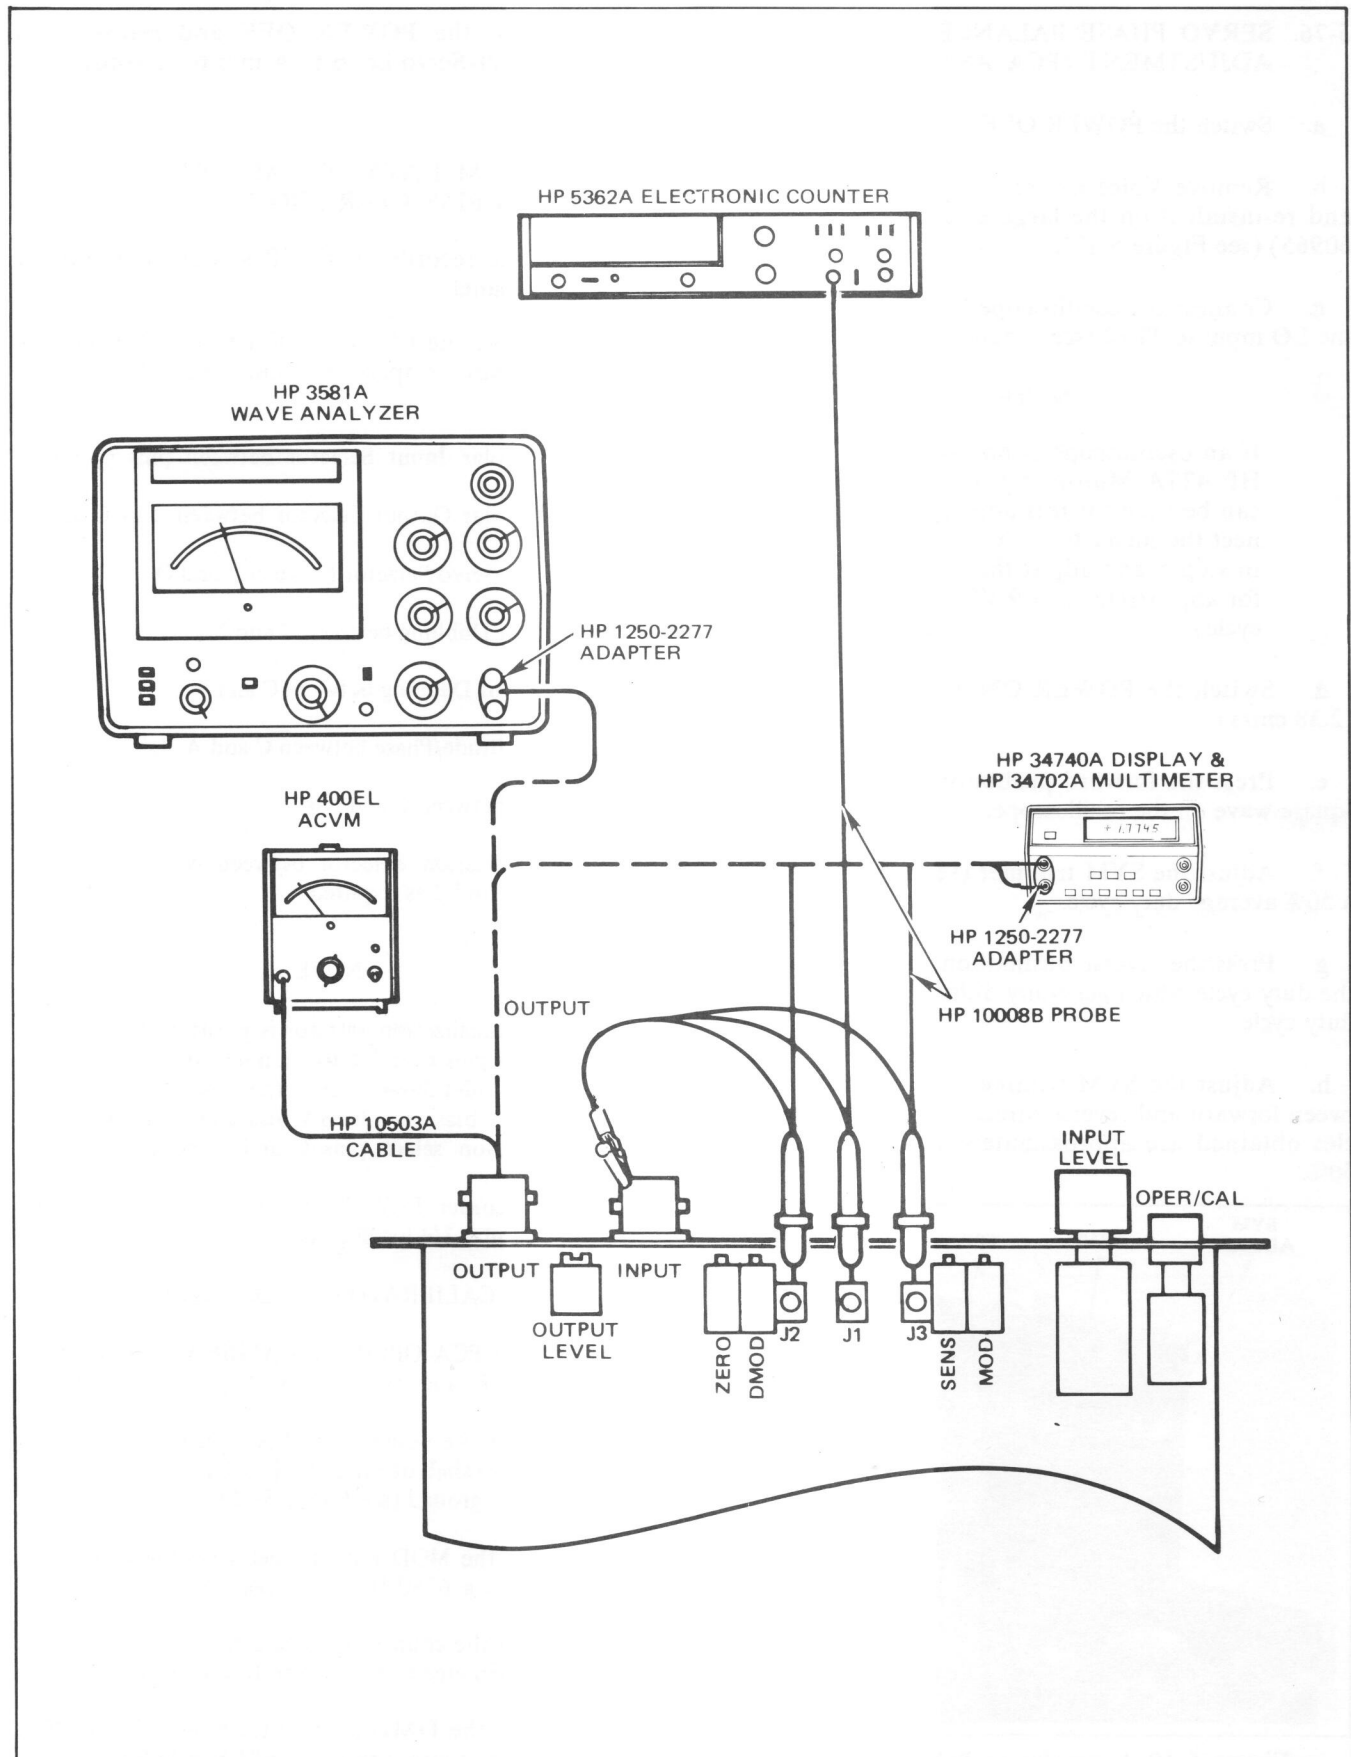

Figure 5-20. FM Data PCA Adjustments
- f. Connect the counter to PCA connector J1 on the front panel. The shell of the INPUT or OUTPUT connector can be used as a ground (see Figure 5-20).